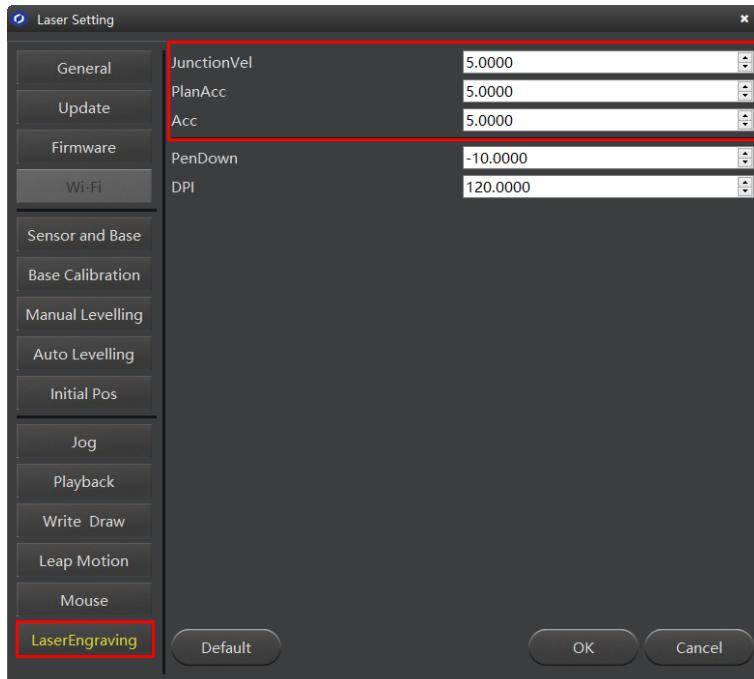

Figure 5.96 Set the parameters of laser engraving
2. Set the **JunctionVel** (junction velocity), **PlanAcc** (linear acceleration), and **Acc (acceleration)**, for example, set all to 5, as shown in Figure 5.96.